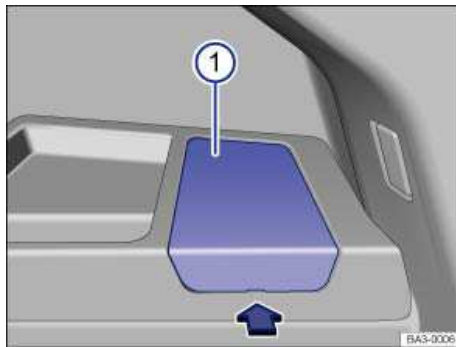

Fig. 179 At the right rear of the luggage compartment: AdBlue tank underneath a cover.
- Fold up cover ⇒ fig. 179 (1).